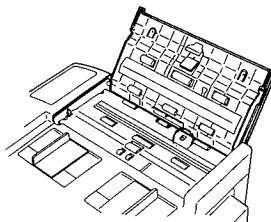

Figure 5-3-1
1. Lift up the ADF panel. (Fig. 5-3-1)